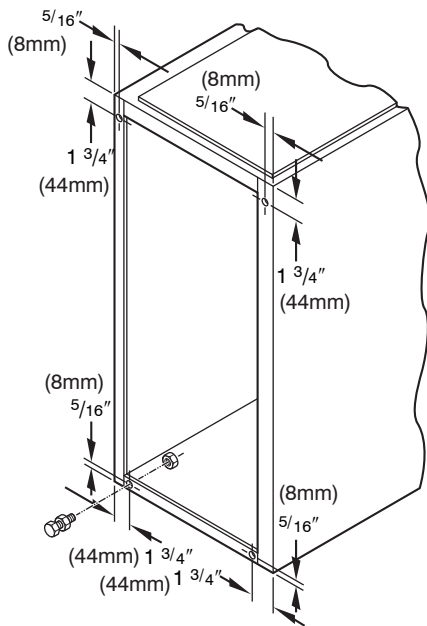

Fig. 10 – Leveling Legs
In upflow position with side return inlet(s), leveling legs may be used. (See Fig. 10.) Install field-supplied, $5/16 \times 1-1/2 \text{ in.}$ ($8 \times 38 \text{ mm}$) (max) corrosion-resistant machine bolts, washers and nuts.
1. Position furnace on its back. Locate and drill a hole in each bottom corner of furnace. (See Fig. 10.)